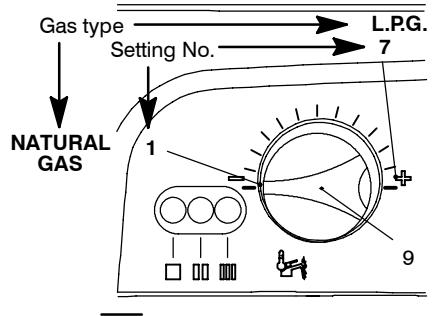

Fig. 8.8
At this step it is possible to visualize the current setting by keeping the reset button 7 pressed for more than 5 seconds. The lamps 10 will flash a number of times corresponding to the setting of the knob 9 in Fig. 8.8.
- To change the setting turn the knob 9 on a position corresponding to the gas used as shown in Fig. 8.8. By turning the knob 9, the lock-out signal lamp 6 blinks quickly (2 per seconds) indicating that the setting has changed and must be memorised.